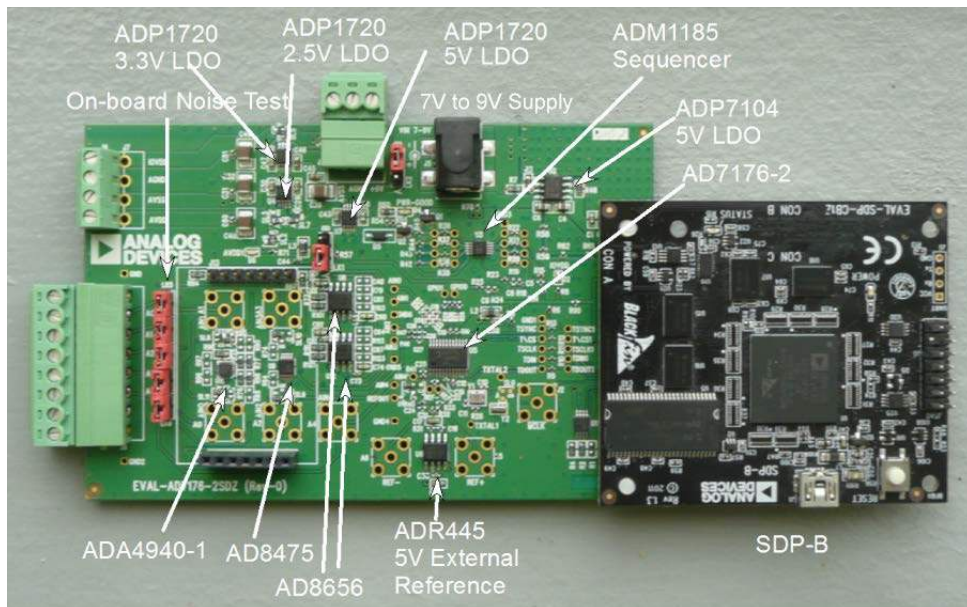

Figure 2. Setting Up the EVAL-AD7176-2SDZ Hardware Configuration
2. Connect the EVAL-SDP-CB1Z evaluation board to the EVAL-AD7176-2SDZ evaluation board as shown in Figure 2.
4. Connect the external 9 V power supply to the J5 connector of the EVAL-AD7176-2SDZ evaluation board, as shown in Figure 2. Set LK2 to Position B.